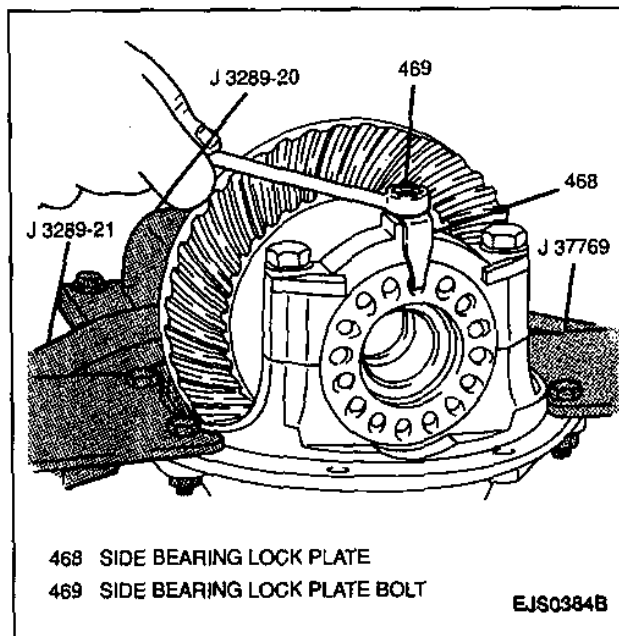

Figure 38—Removing Side Bearing Lock Plate Bolts
4. Two bolts and side bearing lock plates from side bearing caps (Figure 38).